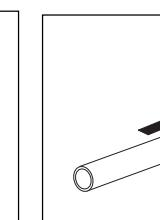

Fig. 4b
2. If you have a cylinder plug with a round end, then use the non-slotted end of the plug follower (Fig. 4a). If you have a cylinder plug with an oval end, use slotted end of plug follower. (Fig. 4b) Then do the following: